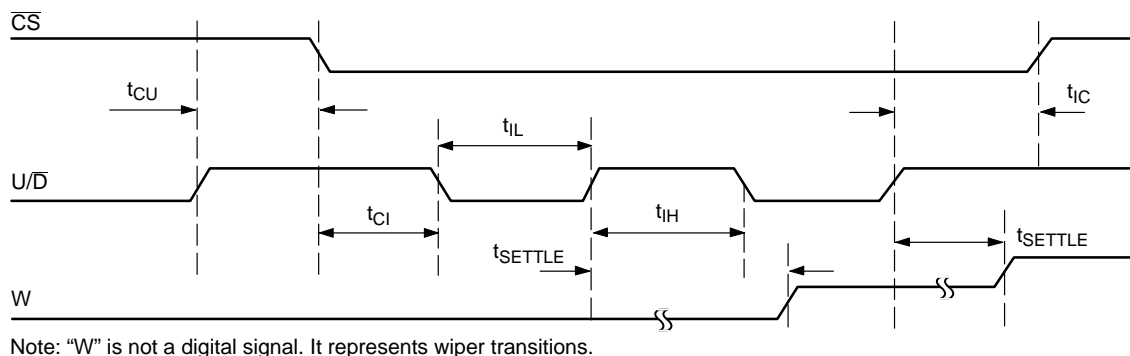

Figure 7. Serial Interface Timing Diagram, Increment Mode
**TIMING CHARACTERISTICS** (Figures 7, 8)
The  $\overline{CS}$  and  $U/\overline{D}$  inputs control the position of the wiper along the resistor array. When  $\overline{CS}$  transitions from high to low, the part will go into increment mode if  $U/\overline{D}$  input is high, and into decrement mode when  $U/\overline{D}$  input is low. Once the mode is set, the device will remain in that mode until  $\overline{CS}$  goes high again. A low-to-high transition at the  $U/\overline{D}$  pin will increment or decrement the wiper position depending on the current mode (Figures 7 and 8).